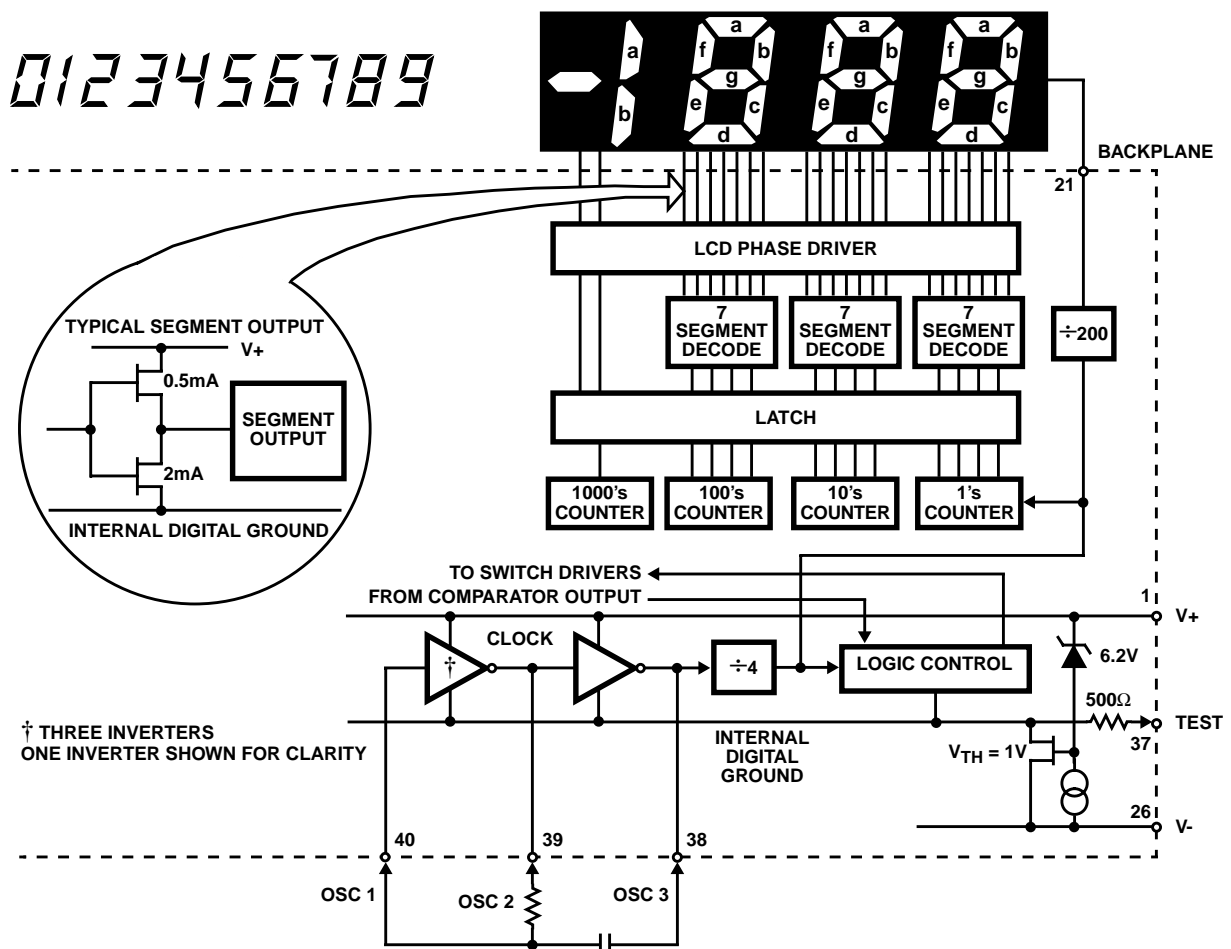

FIGURE 7. WS 7106 DIGITAL SECTION
Figures 7 and 8 show the digital section for the WS7106 and WS7107, respectively. In the WS7106, an internal digital ground is generated from a 6V Zener diode and a large P-Channel source follower. This supply is made stiff to absorb the relative large capacitive currents when the back plane (BP) voltage is switched. The BP frequency is the clock frequency divided by 800. For three readings/sec., this is a 60Hz square wave with a nominal amplitude of 5V. The segments are driven at the same frequency and amplitude and are in phase with BP when OFF, but out of phase when ON. In all cases negligible DC voltage exists across the segments.